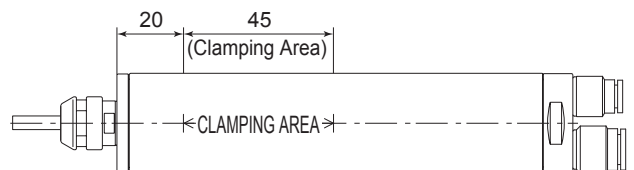

Fig. 9
- ① When mounting an Air Motor Spindle, refer to the Clamping Area etched on the Air Motor Spindle (Fig. 9).